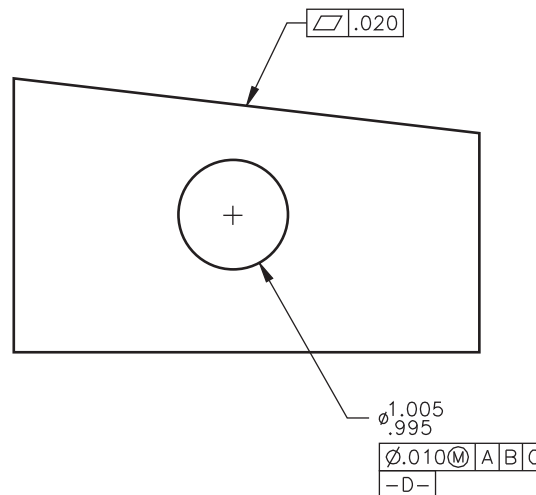

Fig. 30-11
3. Pick the **OK** button and position the feature control frame as shown in Fig. 30-11.